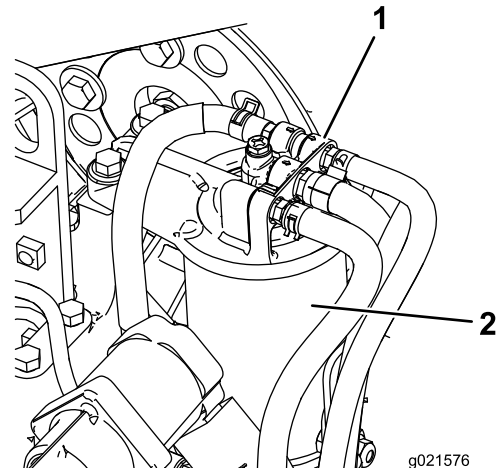

Figure 70
1. Clean the area around the fuel-filter head (Figure 70).
2. Remove the filter and clean the filter-head mounting surface (Figure 70).